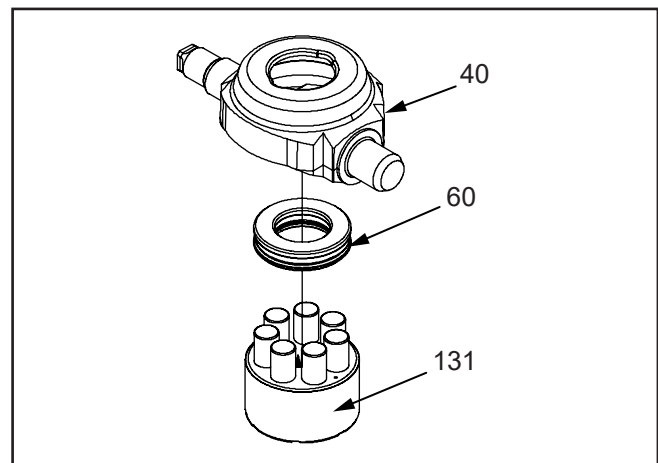

Figure 11.
8. **(See Figure 11)** Disassemble the pump cylinder block (131) from the swashplate (40).
11. (See Figure 11) Install the pump thrust bearing (60) in the trunnion machined swashplate (40). NOTE: Place the thin race of the bearing towards the swashplate. The thick race must face the pistons.